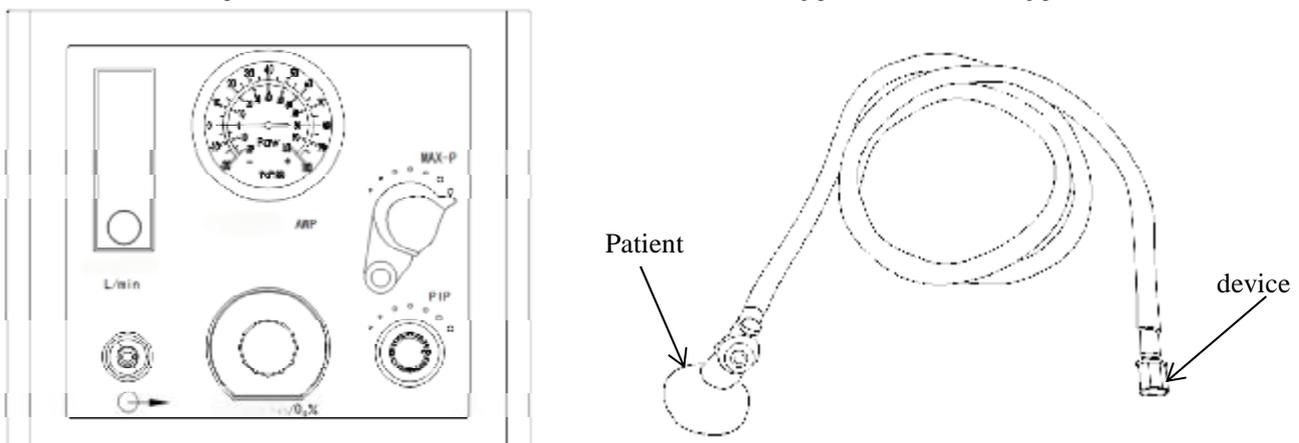
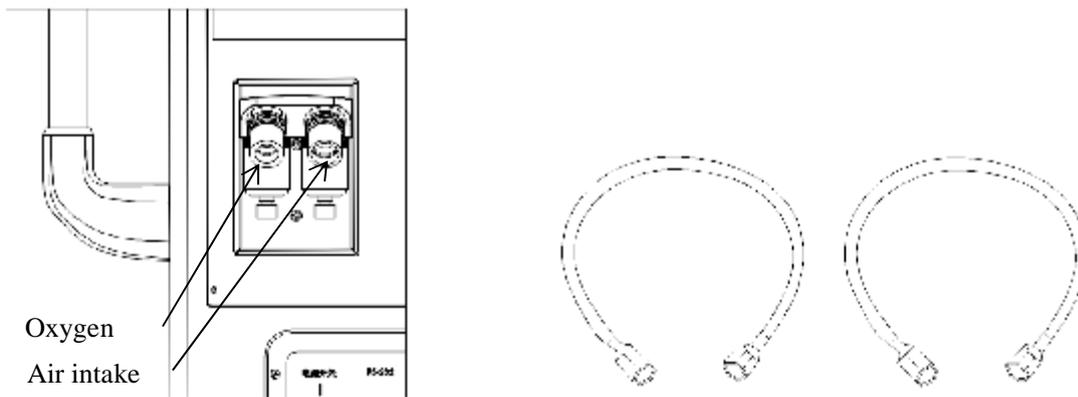

Figure 41 Figure 42: T tube patient donor trachea
Figure 43 Figure 44: Air intake pipe (black) and oxygen intake (blue)
9.3.2.1 Pipe connection: Connect the T-pipe patient pipe outlet in Fig. 42 to the outlet of FIG. 41, connect the air inlet in Fig. 44 to the air inlet in FIG. 43, and connect the oxygen inlet to the oxygen inlet in FIG. 43